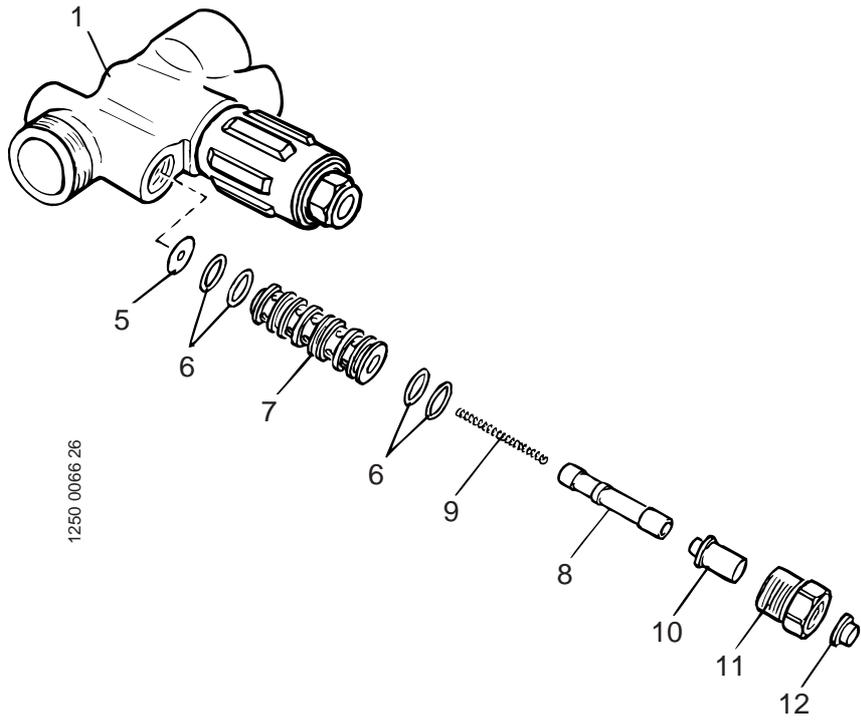

Fig. 12
9. Remove the adapter (11) and dismantle the valve parts (5, 6, 7, 8, 9, 10 and 12). See fig. 12.